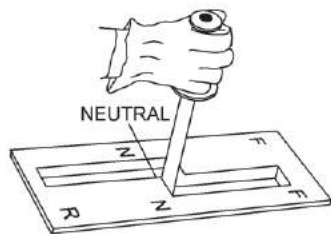

Figure 18. Shift Lever
4. Make sure that the roller's shift lever (Figure 18) is placed in the *neutral position*.